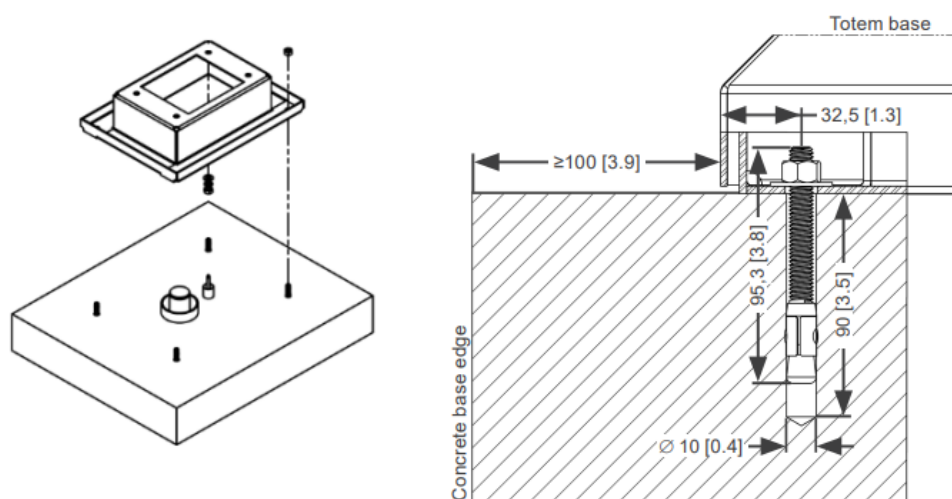

Figure 3.9: Details of the mounting points - mm [in]
The base of the totem should be fixed to the concrete base using four (04) anchors (3/8"), supplied with the product, which should be drilled or pre-cast as per the distances indicated in Figure 3.9 on page 3-9.